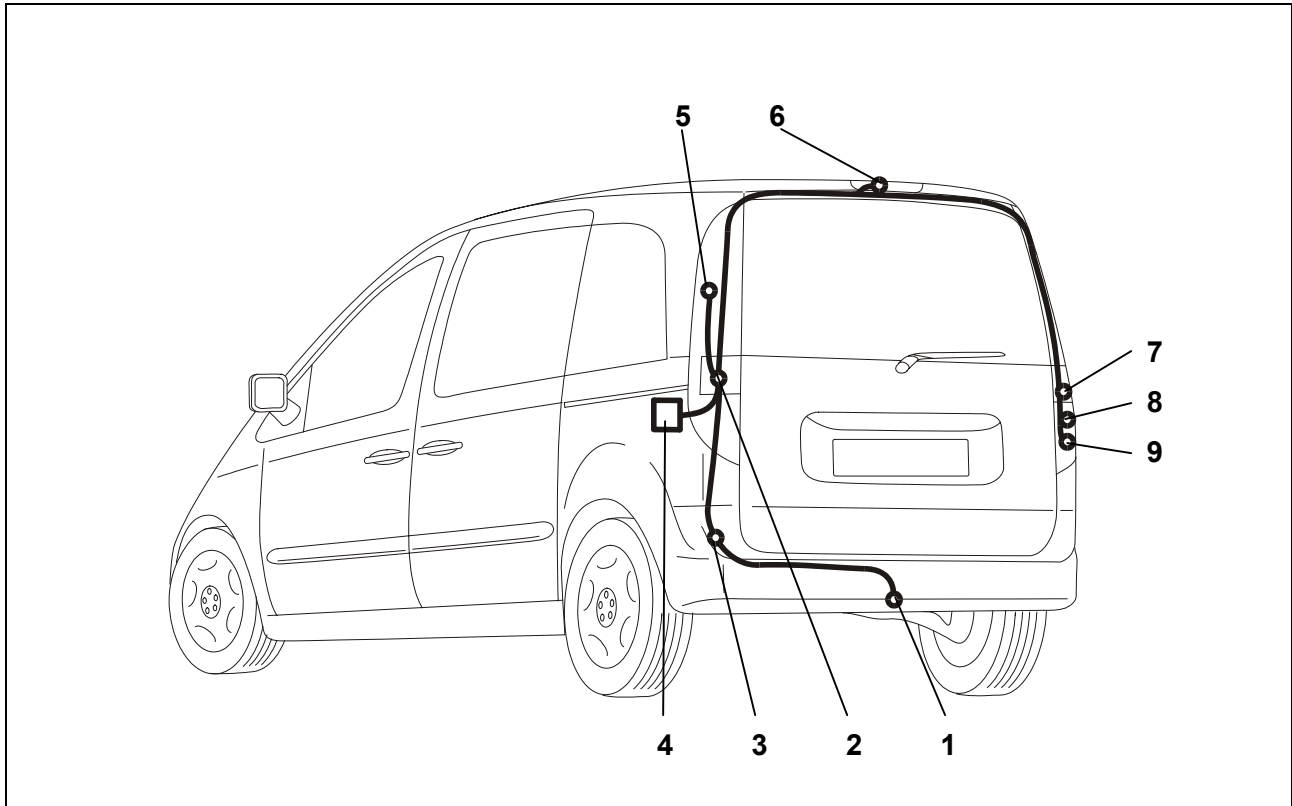

Fig. 2: Installation Overview
3. Bore a 19 mm hole for the cable leadthrough beneath the left-hand tail light at a suitable place (fig. 2/3). Use existing cable leadthrough if possible.
4. Starting in the cavity behind the left-hand tail light, lead the cable end of the cable harness through the cable leadthrough to the outside and from there to the socket holder plate (Fig. 2/1).
5. Insert the rubber grommet into the cable leadthrough (Fig. 2/3).
6. Fit the socket gasket and connect the cable harness to the socket housing in accordance with the *pin assignment plan* (Fig. 2/1) and push the rubber grommet against the socket.
7. Screw the socket onto the holder plate (Fig. 2/3) using the supplied screws and nuts.
8. Disconnect the plug-in connector of the left tail light (Fig. 2/2) and connect it to the matching counterparts on the cable harness. Make sure that the plugs lock firmly into place.
9. Lay the cable end with the two 6-pin plugs above the top interior trim to the right-hand tail light (Fig. 2/7).
10. Disconnect the plug-in connector of the right-hand tail light (Fig. 2/7) and connect it to the matching counterparts on the cable harness. Make sure that the plugs lock firmly into place.
12. Fasten the trailer module (Fig. 2/4) in the left-hand cavity behind the tail light using some velcro tape.
13. Connect the brown wires with the eyelet to the vehicle's ground point (Fig. 2/5) above the left-hand tail light.